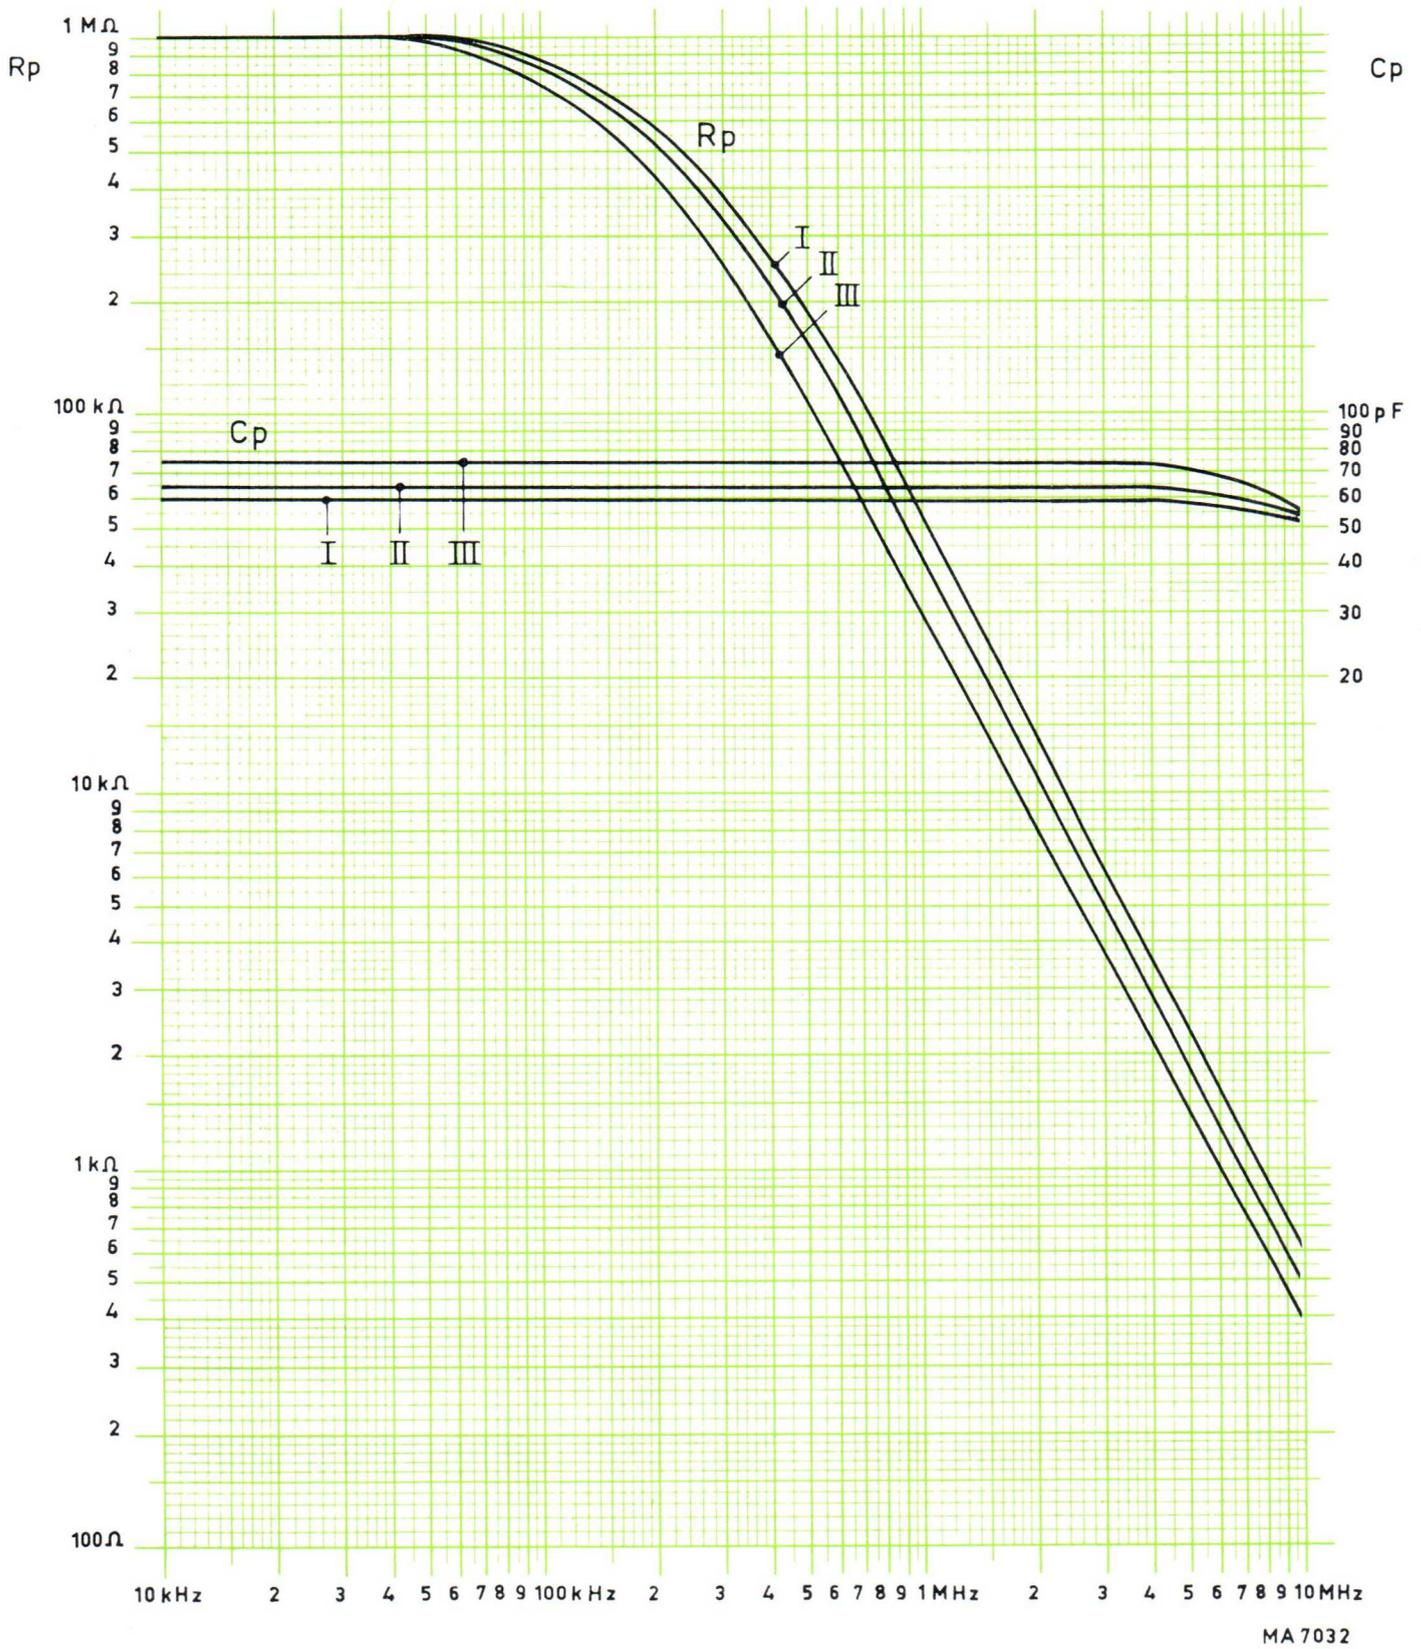

Fig. 1. Parallel input resistance R_p and capacitance C_p as functions of frequency
a.c. > 20 kHz	See curve Fig. 1
frequencies > 4 MHz	See curve Fig. 1